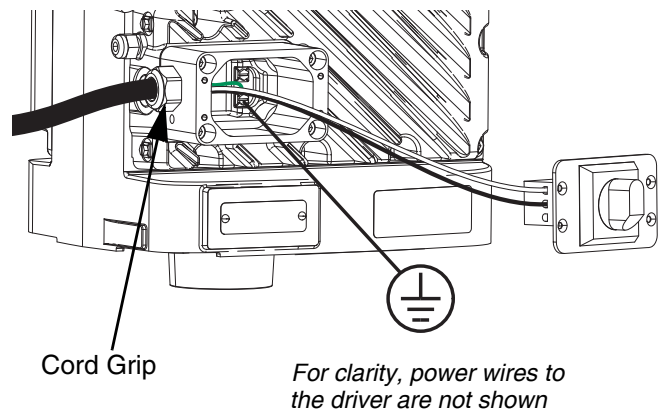

FIG. 6: Connect Power
5. Attach the ground wire to one of the two ground terminals inside the junction box as shown in **Figure 6**.